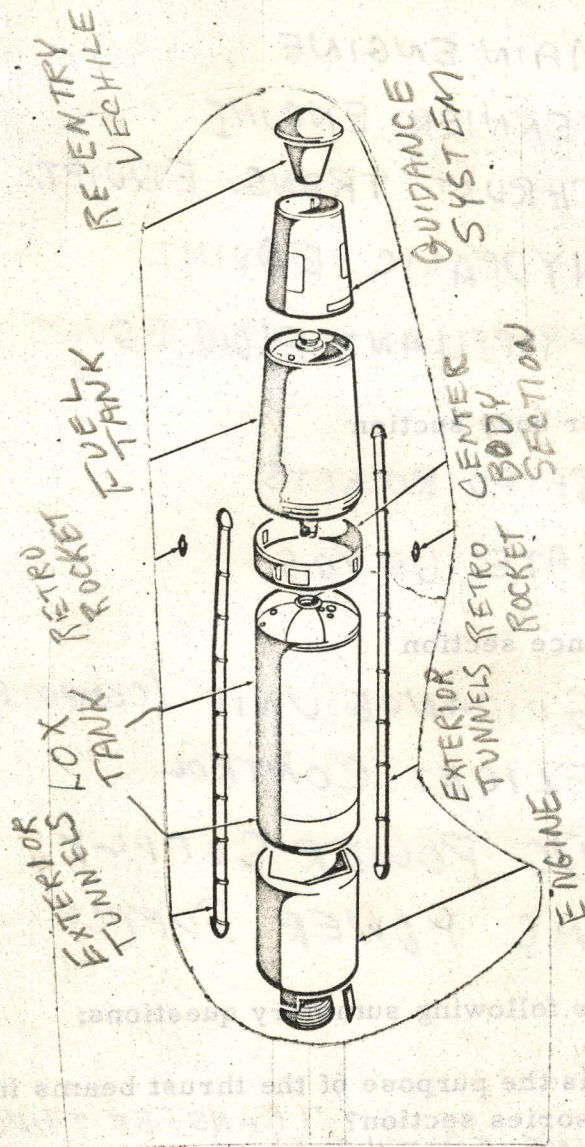

Figure 1 - Missile Section
2. Identify and label the missile sections shown in Figure 1.